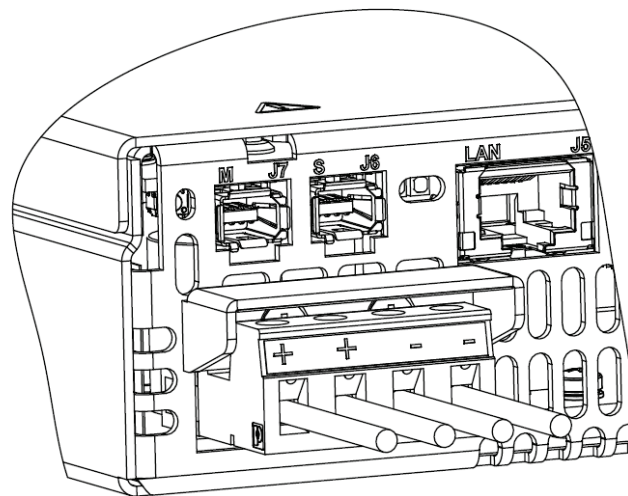

Figure 4-71: Output Plug Connection to P.S output
4. Fix the output connector to the output header as shown in Figure 4-71.